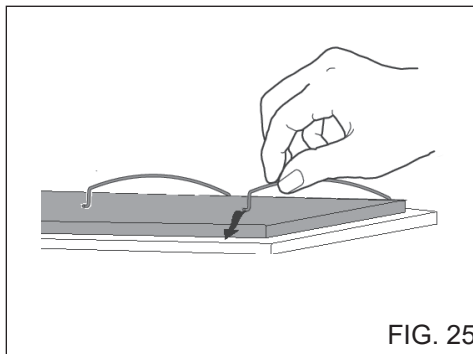

FIG. 25
Position the non-ducted recirculation filter over the grease filter and secure it by means (4) wire retainers. Refer Figure 25.